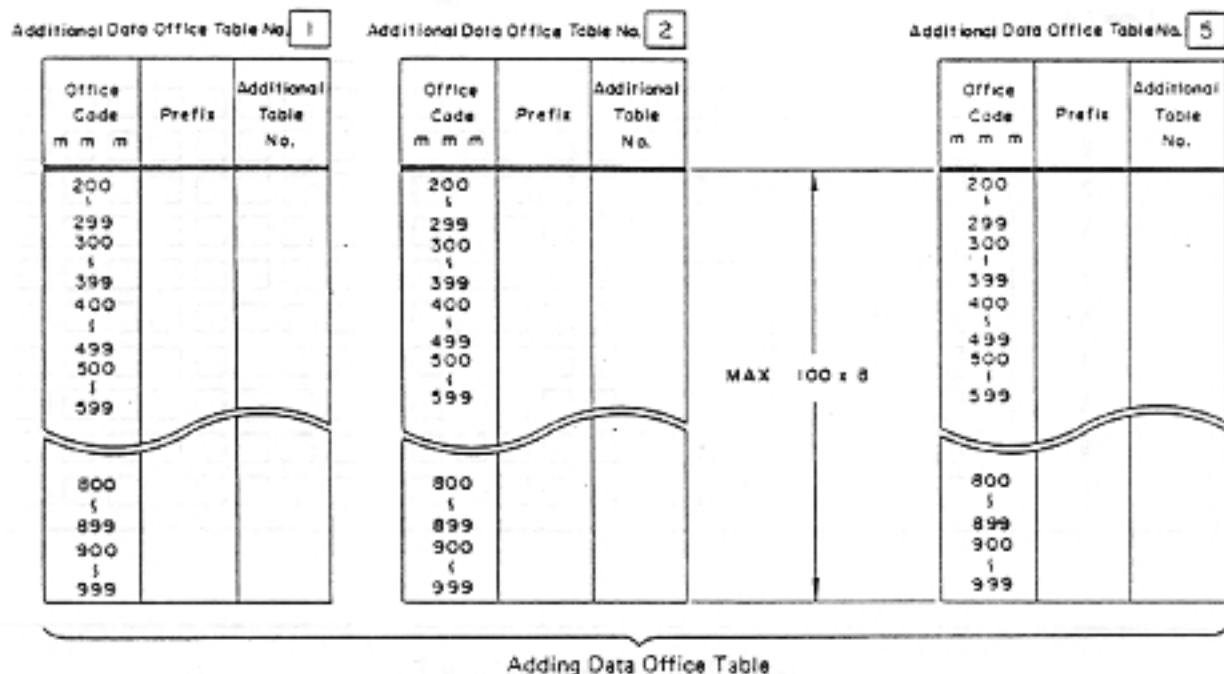

Figure 4.2.2.6.2.13 Adding Data Office Table Format
The system selects one of the tables shown in Figure 4.2.2.6.2.13 from the Adding Data Area/Office Table No. selected in item 6.
Note: There are five Adding Data Office Tables, each of which is so formatted that a prefix may be registered for each office code, and an index number may be entered in the adding table column. The index number points the adding table where the dial data to be added are stored. Office codes are consecutive, and are broken down into 100 by 8 blocks, as shown in Figure 4.2.2.6.2.13. These table must be filled out by the installer during planning.
- (2) The system searches the Adding Data Office Table selected in item (1), example 2, for the office code registered in the input dial table (Figure 4.2.2.6.2.1) and selects the prefix and Adding Table No. that are registered there. The system stores in memory whether to add a "1" to the dial data to be sent, depending on whether the prefix "1" has been entered. The system then proceeds to referring to the Adding Table indicated by the selected Adding Table No.
- (3) The Adding Table is the same as the one referred to in item 7, example 1. (See Figure 4.2.2.6.2.12). The system refers to this table, and selects dial data to be added and their position (before or after the normal dial data). Thus, the dial data, consisting of an office code and customer code, is modified. The factors that are determined by the system in the process of modifying the dial data to be sent after CO group selection can be summarized as follows: